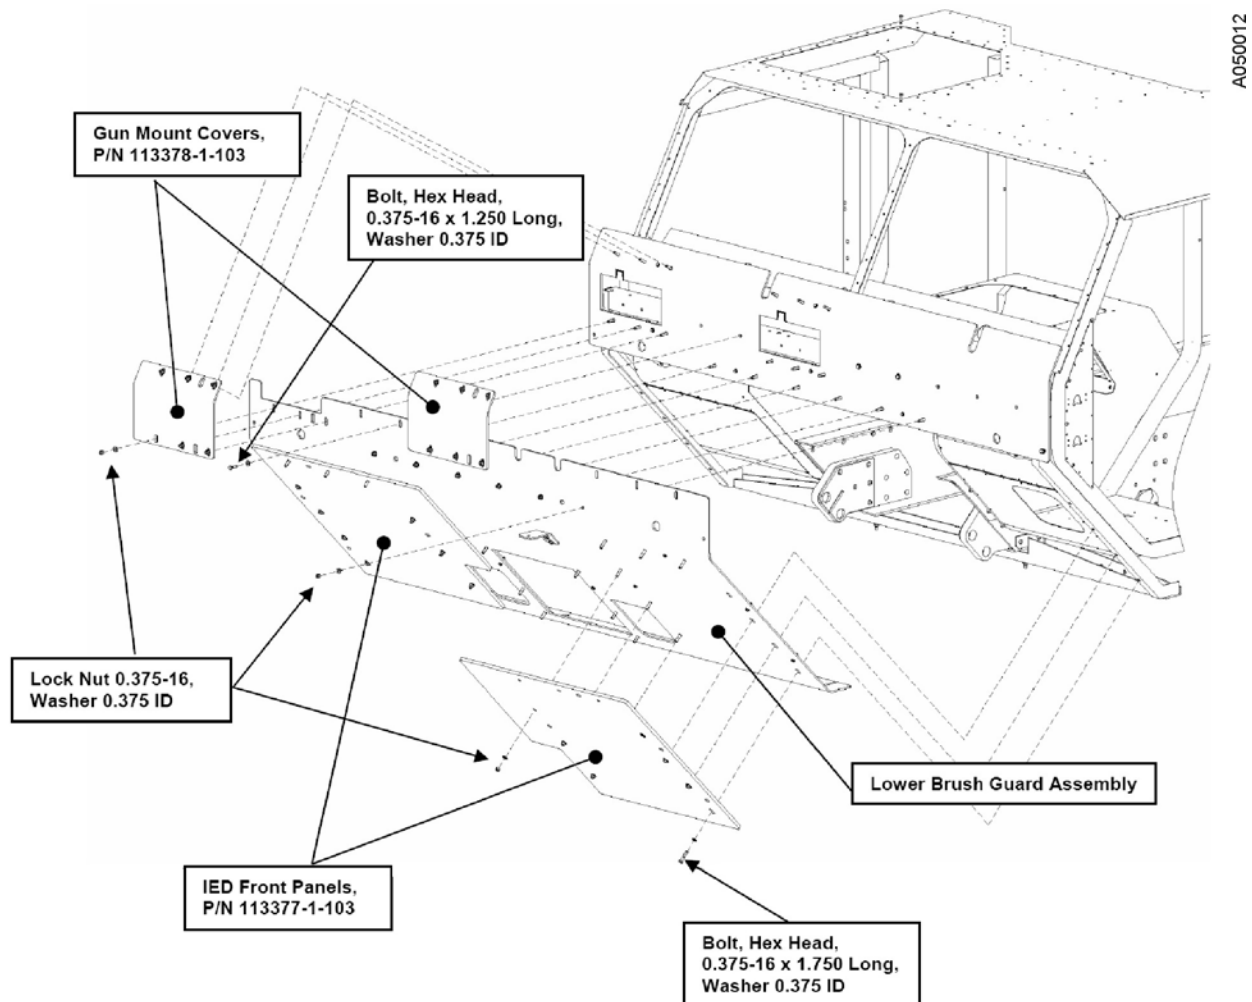

Figure 49. Lower Brush Guard Armor Panels.
- h) Using a lifting strap and material handling equipment (hoist, forklift, etc.), orient the Lower Brush Guard as shown in Figure 49. A hand winch can be attached to the bottom edge of the Brush Guard and frame of the vehicle to assist in positioning the Brush Guard. Place the Brush Guard into position over the studs.
- i) Install the IED Front Panels (P/N 113377-1-103) using the hardware shown in Figure 49.
- j) Install the two Gun Mount Covers (P/N 113378-1-103) using the hardware shown in Figure 49.
- k) Install the remaining nuts and bolts as shown in Figure 49.